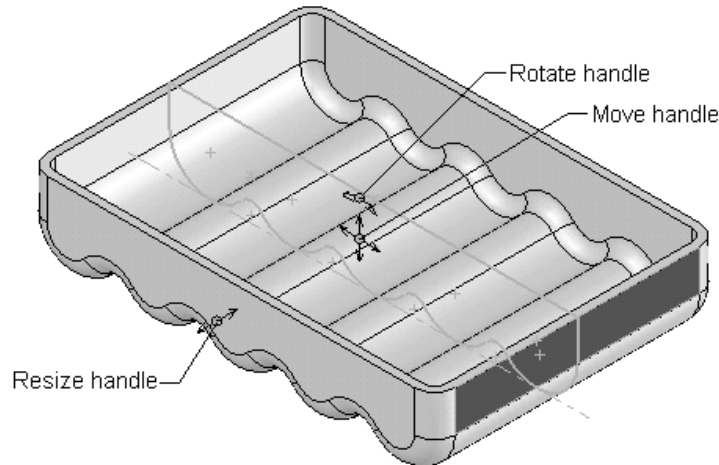

Figure 9-47 Editing handles for editing the base feature
- Dynamically modify the model, refer to Figures 9-47 through 9-48.
2. Select the right planar face of the base feature from the drawing area, refer to Figure 9-47. The selected face will be highlighted in green. The sketch of the selected feature is also
displayed in the drawing area, along with various editing handles, as shown in Figure 9-47.